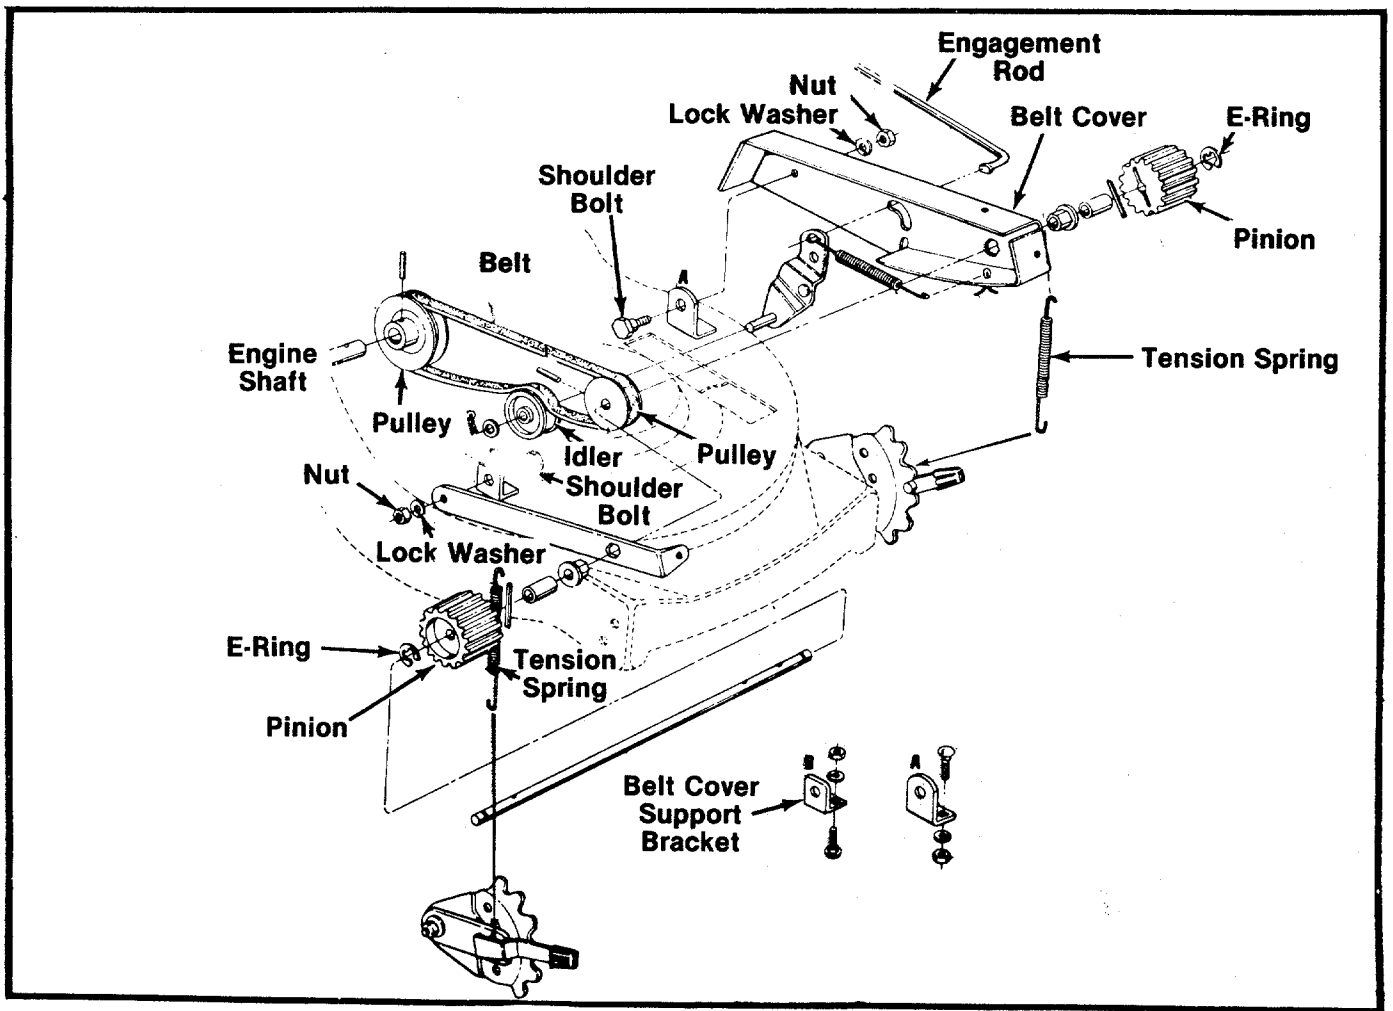

FIGURE 26.
BELT REPLACEMENT (See figure 26)
2. Remove both tension springs. See figure 26.